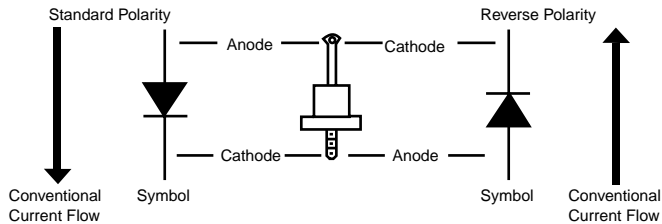

Figure E.1
1. Isolate the diode in question from the remainder of the circuit and determine its polarity from the wiring diagram and Figure E.1.